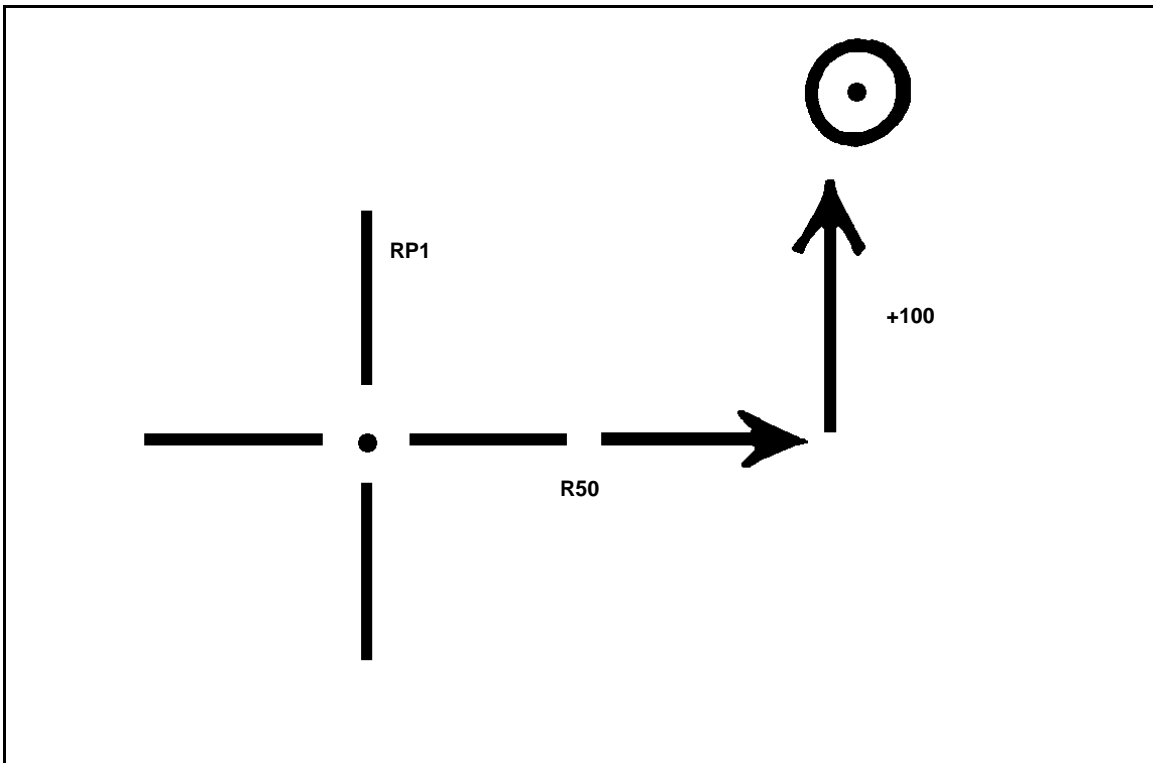

Figure 14-11. Determination of a spotting.
(1) When the first round impacts, the radar operator sends the FDC the direction and distance to that round.
(2) The FDC then indexes that direction and plots the round at the distance sent (the plot is made from the radar position plot, using the distance sent).
(3) The FDC indexes the mortar RP azimuth and determines the spotting by comparing the round's impact plot with the RP plot. The FDC, acting as the FO, determines all spottings (Figure 14-11).